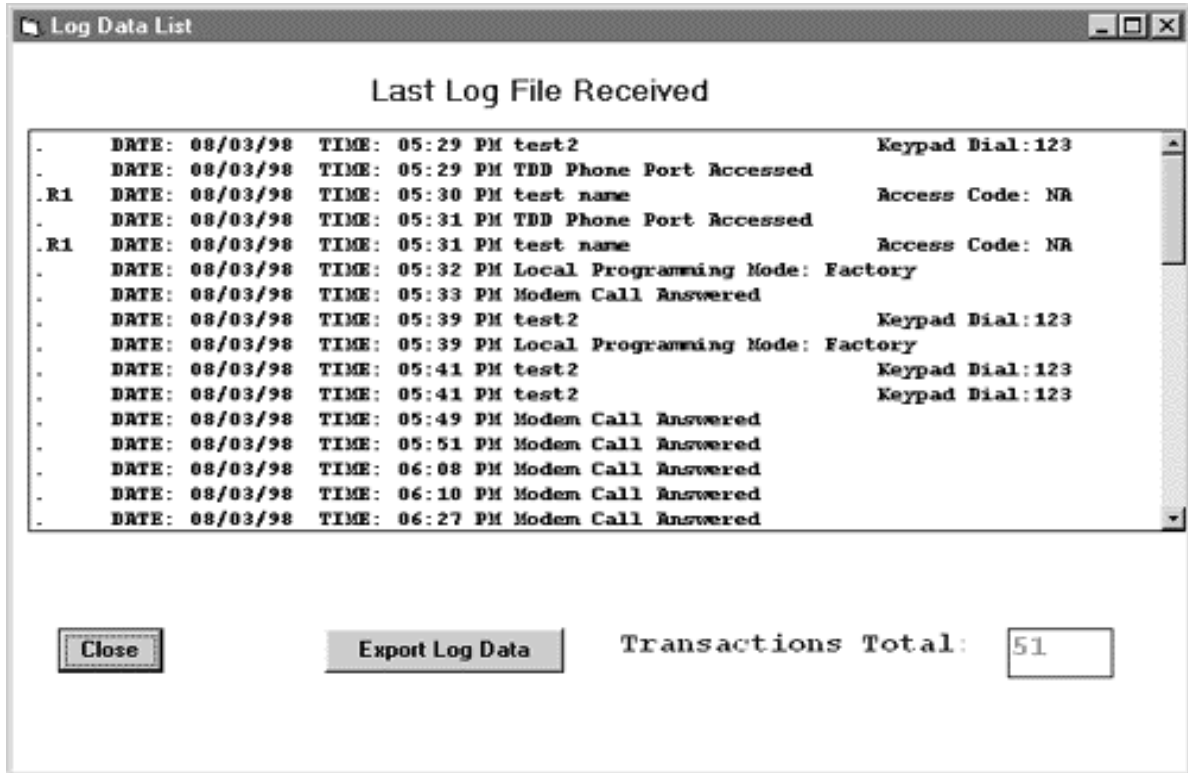

Figure 5.7.3.1
e) When **All Logged Data** has been received from the local Entraguard unit, the following message (Figure 5.7.3.1g) will appear:
f) The **Log Data List** window will then be displayed (Figure 5.7.3.1). The list retrieved will contain all the transactions which fit in the buffer.